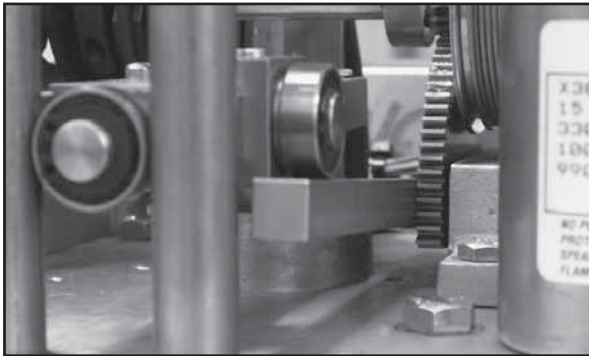

Figure 6
3. Use the Handwheel to position the control shaft so that the lever of the sector-lever gear assembly is parallel with the upper bearing plate. See Figure 6, below for location of lever and bearing plate.